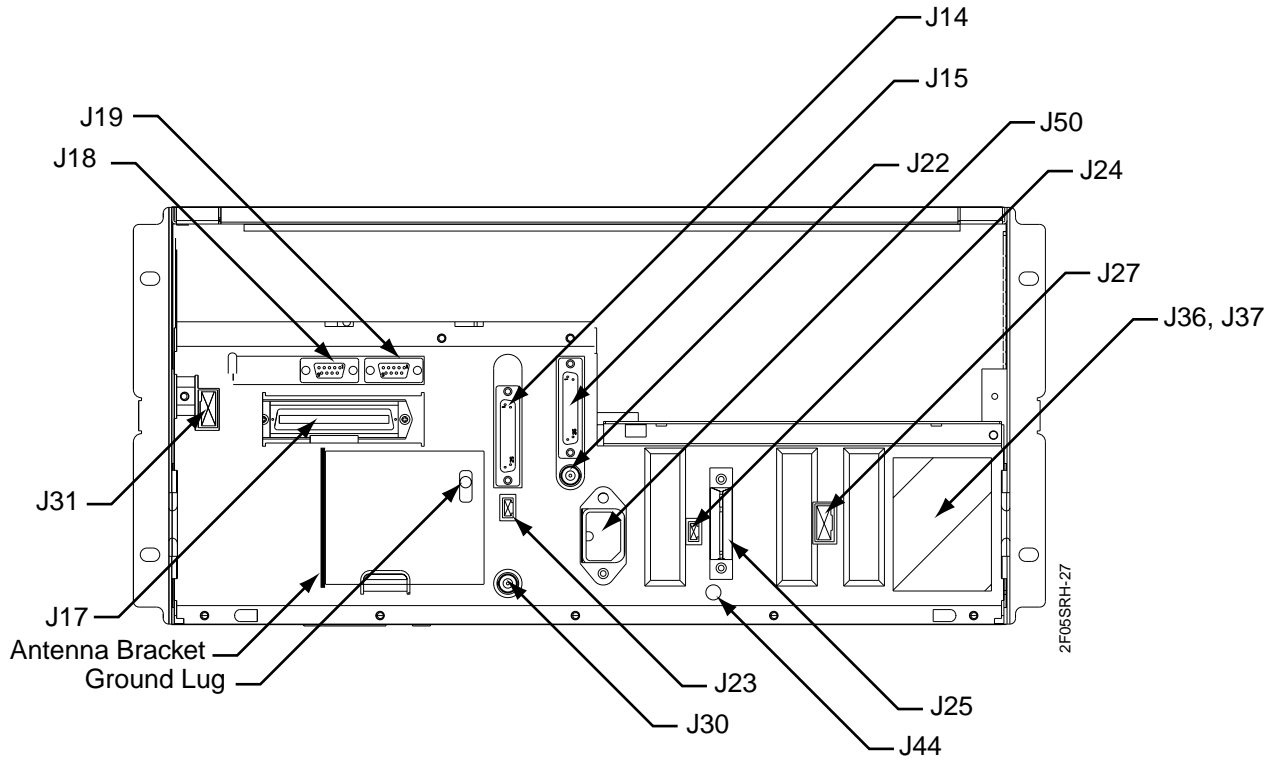

Figure 5-2: Backplane Connectors for a Standard Power Station
- Standard power station (see Figure 5-2)